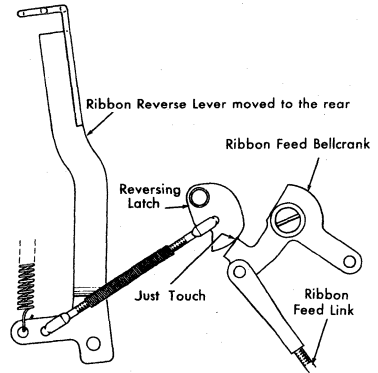

Figure 49. Ribbon Feed Link Adjustment
4. Adjust the ribbon feed links so that, when the cam is on its high point, the reversing lug of the ribbon feed bellcrank can just contact the reversing latch when the latch is engaged and in its extreme high position (Figure 49). Observe the adjustments by moving the ribbon reverse levers to the rear when the pawls are engaged in first one spool and then the other. The lug should not choke off against the reversing latch.